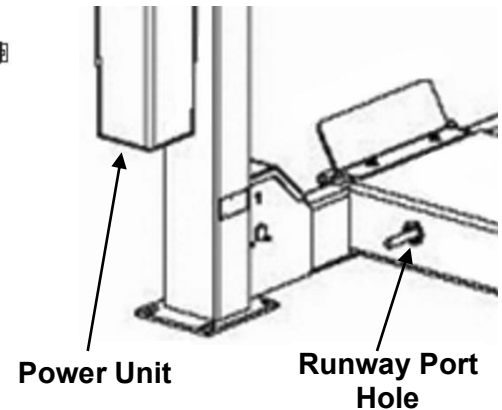

Fig. 24
- 2) Locate plastic Corrugated Flex Tubing and remove the Jam Nut from one end. Insert Flex Tubing end through the port hole located at the end of Power Side Runway, secure to runway with Jam Nut, Fig 24.